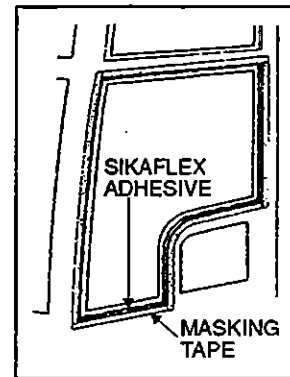

Figure 38 18081
8. Install Tremshield tape (Prévost part no 68-1089) around the sealing surface of the window opening. See figure 38.